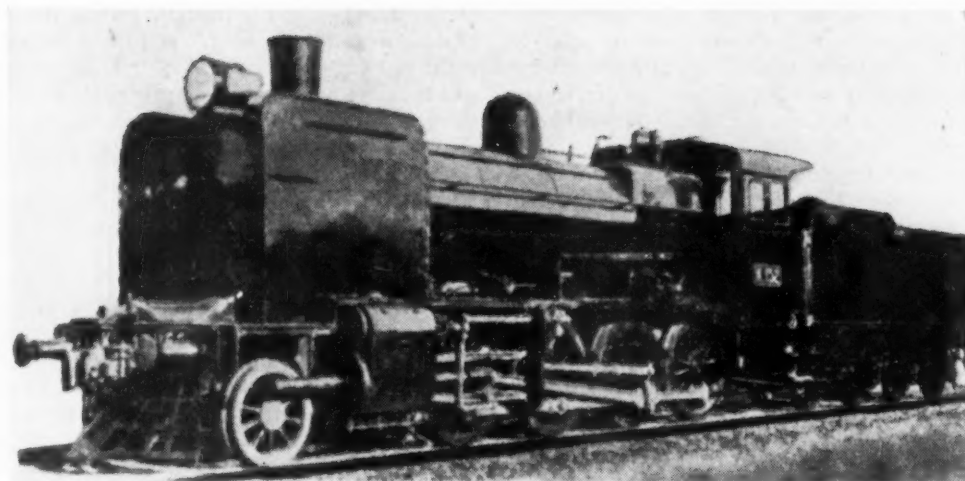

FIG. 14 VICTORIAN RAILWAY 2-8-0
The Victorian (Australia) 2-8-0, item 4 and Fig. 14, represents a class of locomotives having an interesting history. The first of these was built in 1925, for light freight service. However, a general program of rehabilitating Australian motive power, initiated in 1927, resulted in the conversion of these locomotives to Mikados, special consideration being given, in making the change, to the early likelihood of altering the gage from 66 to  $56\frac{1}{2}$  in. After repeated orders over a period of years for additional 2-8-2's, the current year's order saw the reversion to the original 2-8-0 design, because of its suitability for light trains. The two types have a maximum number of parts in common.